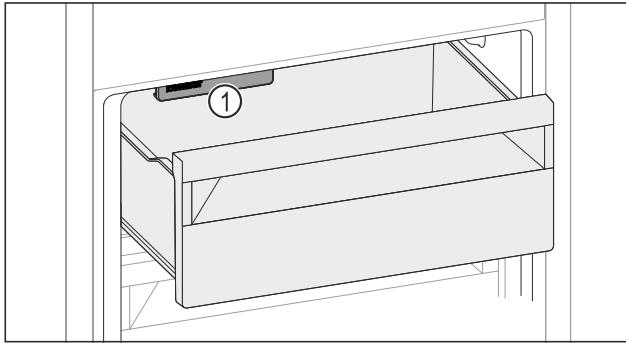

Fig. 61
- ▶ Watch out for the IceMaker Fig. 61 (1).